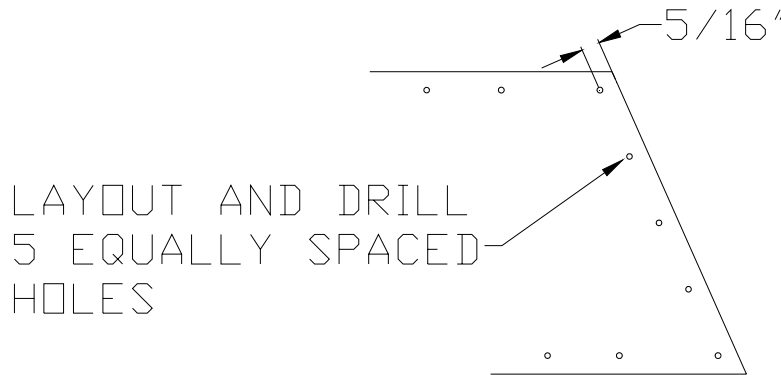

Figure 5.3.5
- 8) Layout and drill a rivet line along the leading edge of both Tip Skins. Figure 5.3.5.